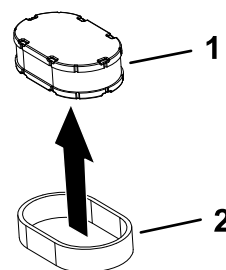

Figure 32
5. Separate the foam and paper elements (Figure 32).